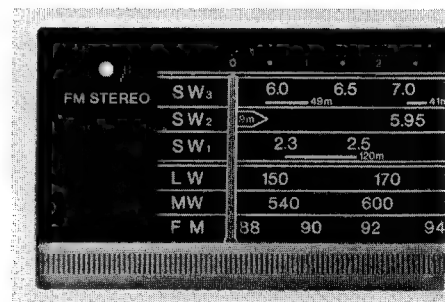

Fig. 39
- Adjust the starting point : turn the tuning knob fully counterclockwise and set the pointer of needle to the starting point of dial scale (refer to Fig. 39).